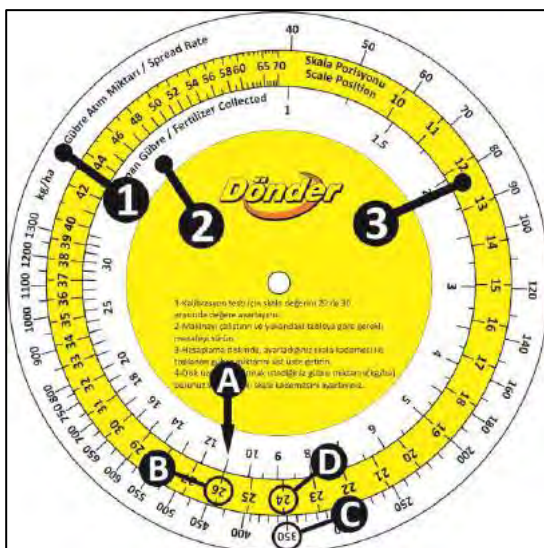

Fig. 37
- Outer White scale (Fig.37/1) indicates fertilizer spreading amount . (kg/ha). It means the product amount that you want to spread.
- Inner white scale (Fig. 37/2), indicates the fertilizer amount that acquired while fertilizer spreading amount check (kg).
Find the numerical value (Fig.37/A) for (Fig.37/2) the acquired value from the scale (kg) and add them up with the set scale value of colored scale at (Fig.37/3) and (Fig.37/B).
4. Find the fertilizer amount that wanted to spread [kg/ha] from outer white scale (Fig. 37/1). Read (Fig.37/C), and scale value of the machine (Fig.37/D).